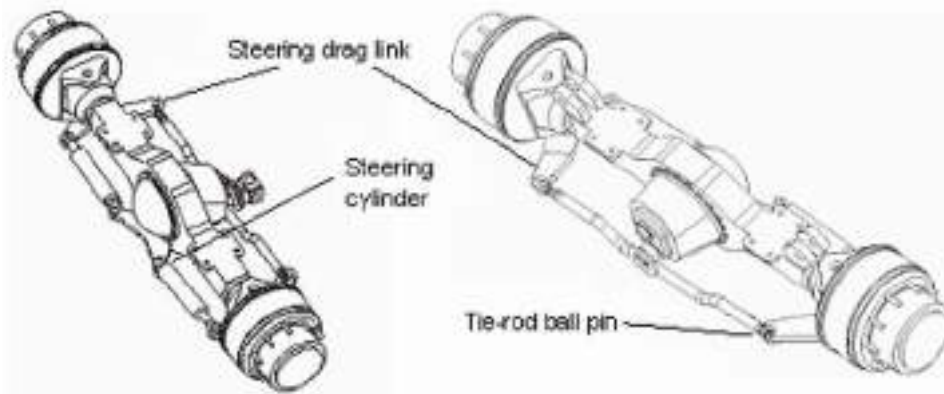

Figure 1-14 Steering System Lubrication Points
- (8) Lubricate the steering system. Refer to Figure 1-14.